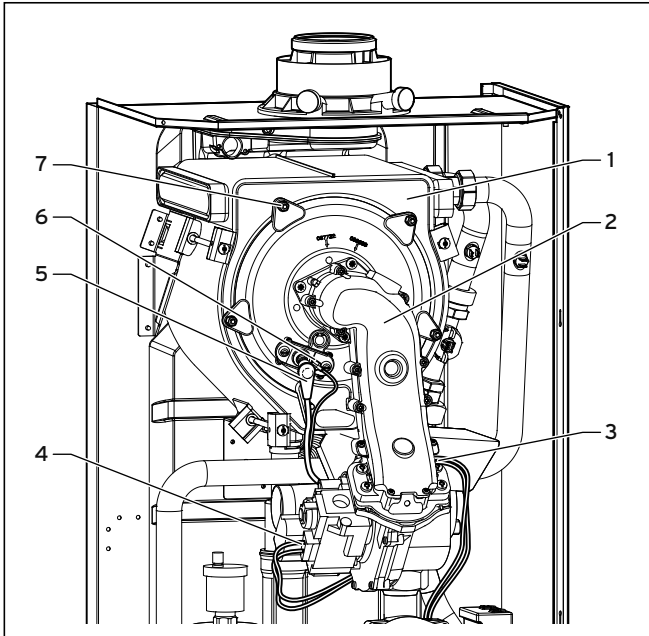

Fig. 8.3 Dismounting compact thermal module
- Insert the compact thermal module (2, Fig. 8.3) into the heat exchanger (1, Fig. 8.3).
- Tighten the five nuts (7, Fig. 8.3) including the retainer for the air intake pipe crosswise until the burner door is uniformly seated on the contact surfaces.
- Plug on the ignition wire (5, Fig. 8.3) and the ground connection (6, Fig. 8.3).
- Plug on the cables (3, Fig. 8.3) at the fan motor and the cable (4, Fig. 8.3) at the gas valve.